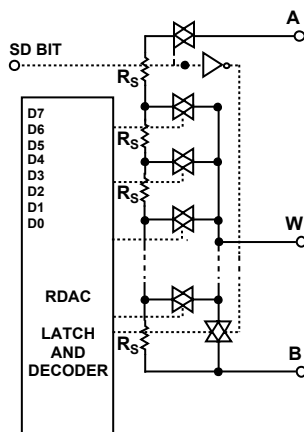

Figure 28. Equivalent RDAC Circuit (A terminal for AD5172 only)
The nominal resistance ( $R_{AB}$ ) of the RDAC has 256 contact points accessed by the wiper terminal, plus the B terminal contact if  $R_{WB}$  is considered. The 8-bit data in the RDAC latch is decoded to select one of the 256 settings. Assuming that a 10 k $\Omega$  part is used, the wiper's first connection starts at the B terminal for data 0x00. Such connection yields a minimum of 60  $\Omega$  resistance between terminals W and B because of the 60  $\Omega$  wiper contact resistance. The second connection is the first tap point, which corresponds to 219  $\Omega$  ( $R_{WB} = (1) \times R_{AB}/256 + R_W$ ) for data 0x01, and so on. Each LSB data value increase moves the wiper up the resistor ladder until the last tap point is reached at 10060  $\Omega$  ( $(256) \times R_{AB}/256 + R_W$ ). Figure 28 shows a simplified diagram of the equivalent RDAC circuit. The general equation determining  $R_{WB}$  is